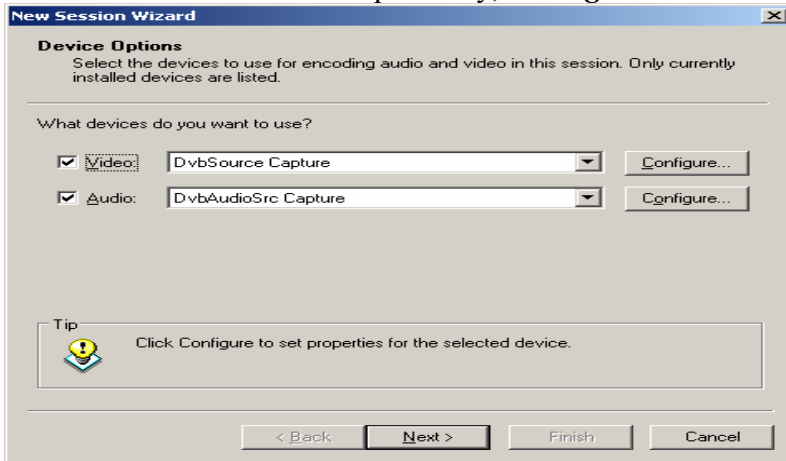

Figure 5.7 Configure Video and Audio settings
- Select appropriate video and audio device. In case of HD-SDI board option “DVBSrc Capture” and as the video device and “DVBAudioSrc Capture” can be selected as video and audio devices respectively, see **Fig 5.7**
- Select appropriate video and audio device. For HD-SDI board option “DVBSrc Capture” and as the video device and “DVBAudiosrc Capture” can be selected as video and audio devices respectively, see *Fig 5.7* and click Next